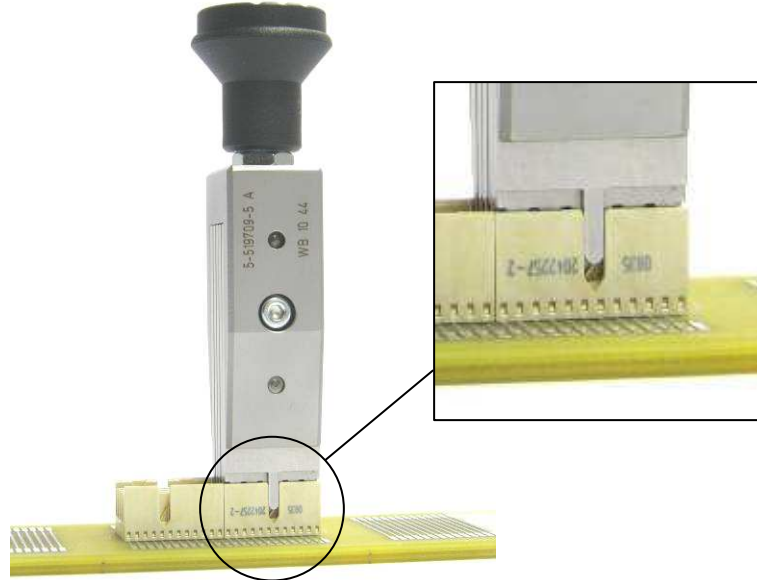

Figure 9
1. The bending tool is placed on the connector to be removed from above. The centring must align with the corresponding guiding slot of the connector (see figure 9).